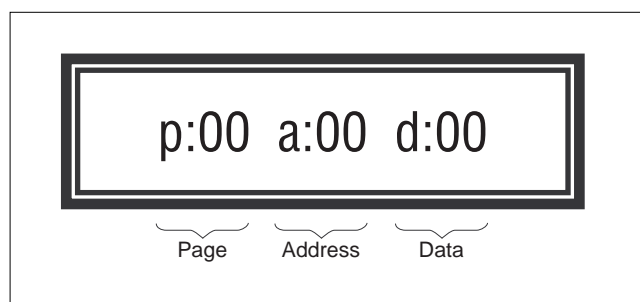

Fig. 6-4-2
- 2) Set the slide switch of the adjustment remote commander (New LANC Jig) to "SERVICE" (SERVICE position). If it has been properly connected, the LCD on the adjustment remote commander (New LANC Jig) will display as shown in Fig. 6-4-2.